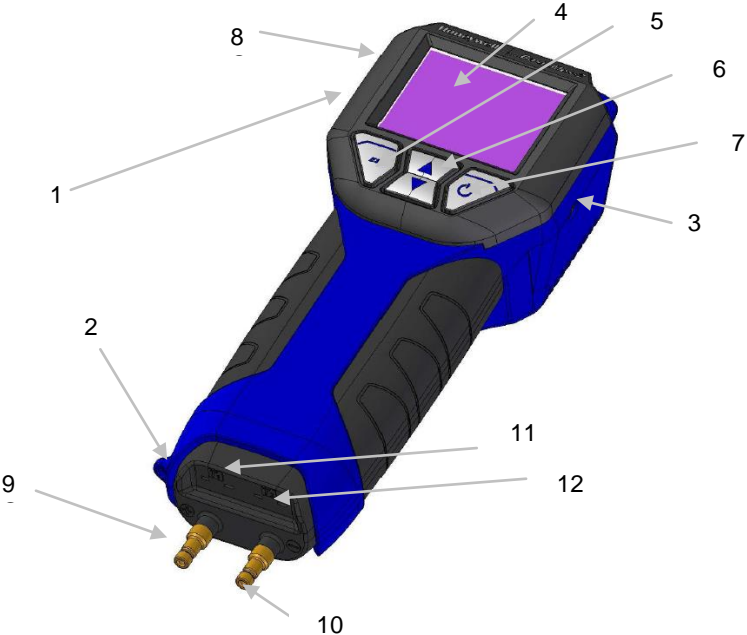

Fig. 1: Overview
14	Battery cover (in Fig. 1 on the rear side)
- Insert the plug of the S-tube probe into jack 11 (Fig. 1) of the Wöhler DC 410^{FLOW}.
- Connect the overpressure hose (turned against the flow) of the S-tube probe to the overpressure socket (+) (Fig. 1, part 9) and the underpressure hose to the underpressure socket (-) (fig. 1, part 10).
- Insert the plug of the temperature measuring pliers into the jacks 11 and 12 (Fig. 1) of the Wöhler DC 410^{FLOW}.
- Insert the plug of the Wall Temperature Probes into the jacks 11 and 12 (Fig. 1) of the Wöhler DC 410^{FLOW}.
- Before you plug the recharger into the outlet, connect it with the charging connection of the DC 430^{FLOW} (Fig. 1, part 3)